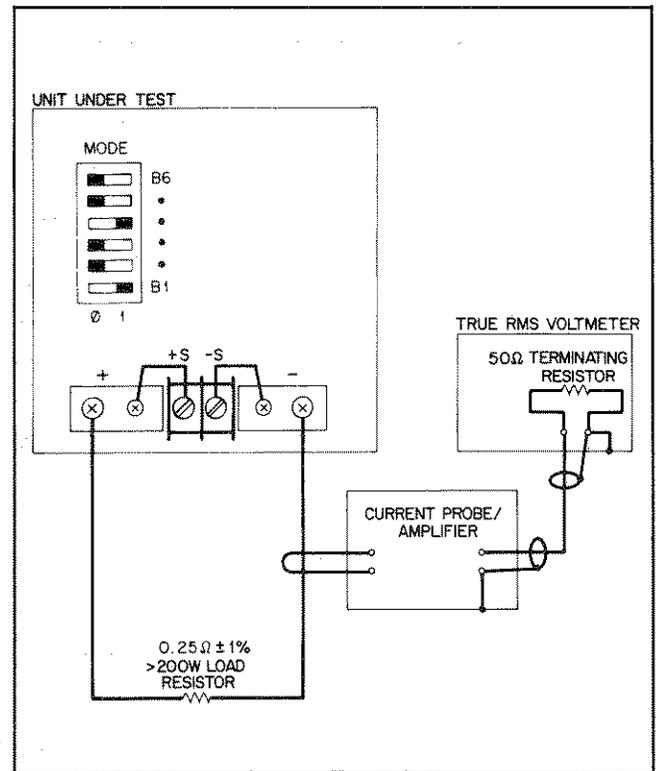

Figure 5-7. CC PARD Test Setup
**Test points:** See Figure 5-7
- Connect the test equipment as shown in Figure 5-7.